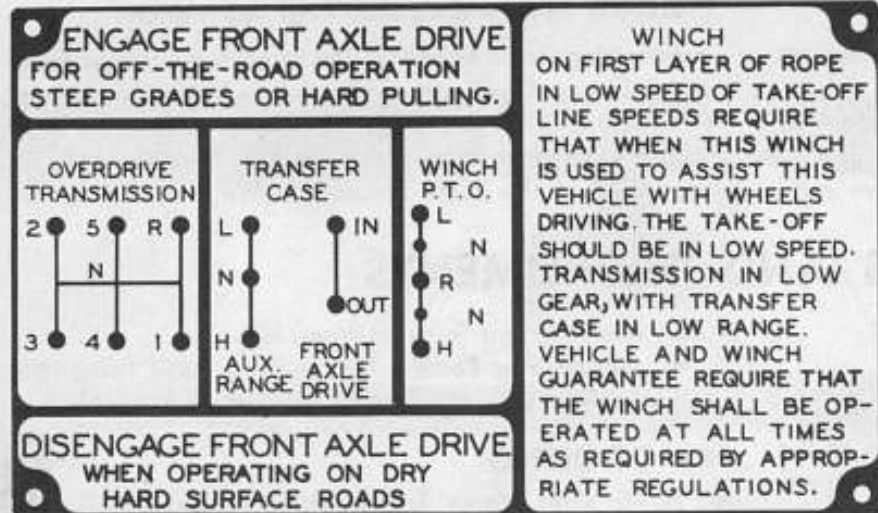
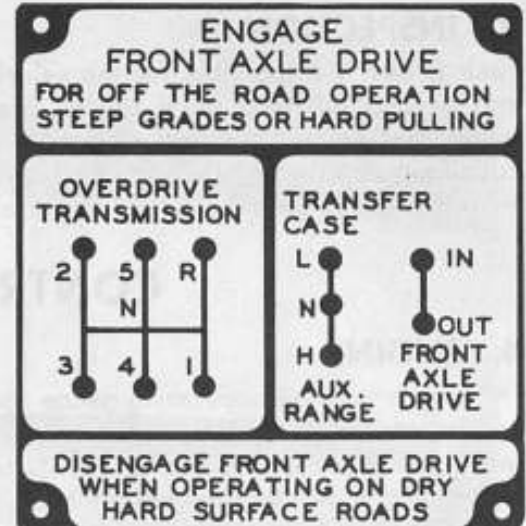

Fig. 2 Transmission, Transfer Case and Power Take-Off Shifting Arrangement Plate (For Trucks Equipped with Winch)
Fig. 3 Transmission and Transfer Case Shifting Arrangement Plate (For Trucks Not Equipped with Winch)
A. Shift Arrangement Plate—Positions for shifting of transmission and transfer case control levers are outlined on this plate which is shown in Fig. 2, for trucks equipped with winch. See Fig. 3, for trucks not equipped with winch.
B. Transmission Shift Lever—This lever is used to select various gear ratios or speeds provided in transmission. There are five speeds forward and one reverse. (See shifting arrangement plates Figs. 2 and 3.) Transmission shift lever should be in neutral position when engine is started.
A. Transfer Case High and Low Lever—This lever is used to shift transfer case into "high," "neutral" or "low" speeds as desired by operator. Arrangement of this lever is such that low speed cannot be engaged unless front axle is also engaged. Arrangement of shift lever positions are illustrated in Figs. 2 and 3. Shifting instructions are given in Paragraph 18.
B. Front Axle Declutching Lever—This lever permits selection of front axle engaged or disengaged positions. Front axle must be engaged before transfer case can be operated in "low" range. With front axle engaged, transfer case may be operated in either "high" or "low" range. See Figs. 2 and 3 for shifting arrangement.